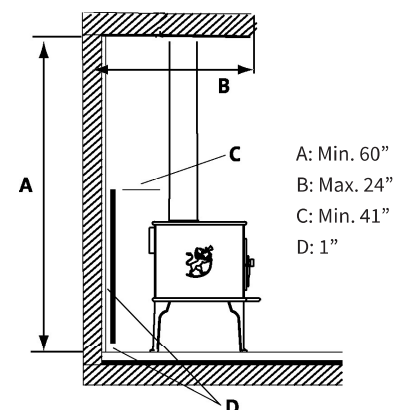

Figure 18. Alcove Ceiling and Connector Clearance.
- Alcove Ceiling and Chimney Connector Clearances: Fig. 18.